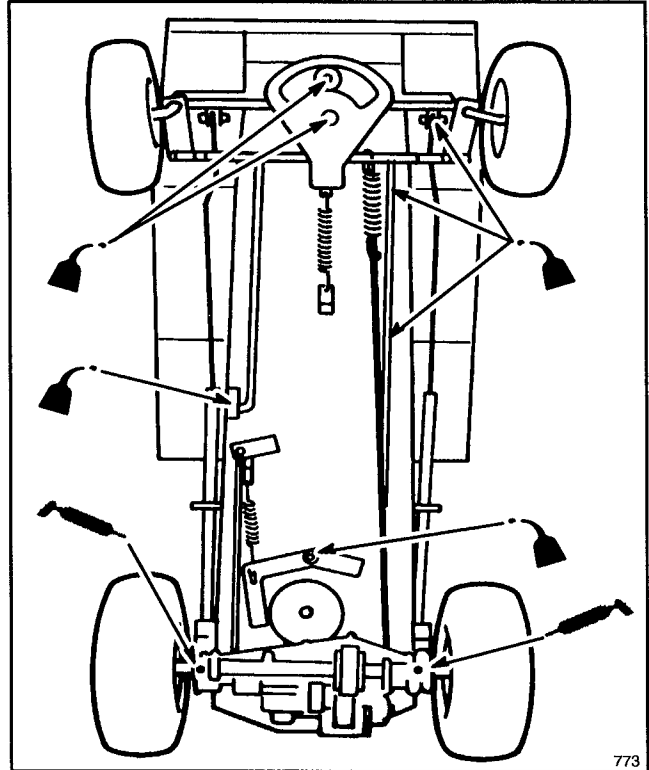

Figure 13
3. Grease rear axles with one to two pumps of No. 2 general purpose grease. The zerks are located just inside of the rear tires on the bottom of the transaxle (Fig. 13).
4. Oil pivot points of steering, drive, brake, clutch, and deck engagement linkage with light oil (Fig. 13). Wipe up any excess oil.